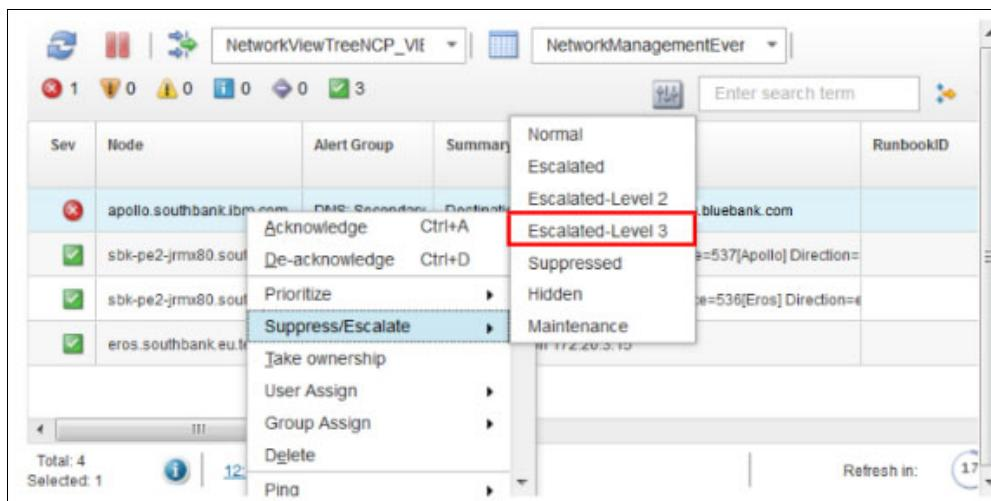

Figure 2-25 Escalating events by using the Network Health Dashboard
9. Annette escalates the issue to Brock (the SME) by right-clicking the Event that is associated with the Secondary DNS server, and clicking **Suppress/Escalate** → **Escalated-Level 3**, as shown in Figure 2-25.